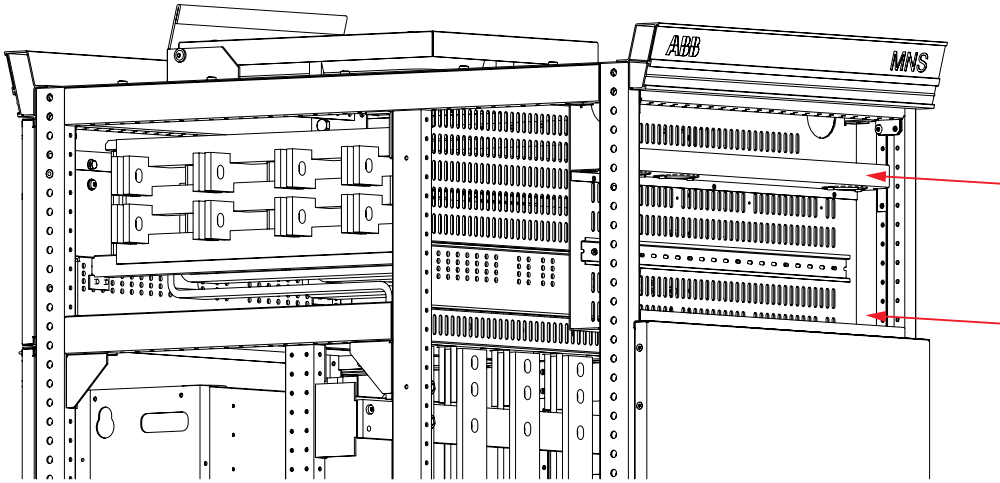

Figure 4-58 Position of MNS Rear control wiring duct for customer external cables. Two wiring ducts are available upper and lower.
- Cables for full width withdrawable module size 4E and above are provided with bellows that are used for insulation purposes. Cables must be fitted with bellows before fastening to the cable connection unit. Bellows must be fitted to ensure exposed connections are and secured with a cable tie. See Figure 4-58.
Termination inside the cable compartment is similar to Figure 4-58